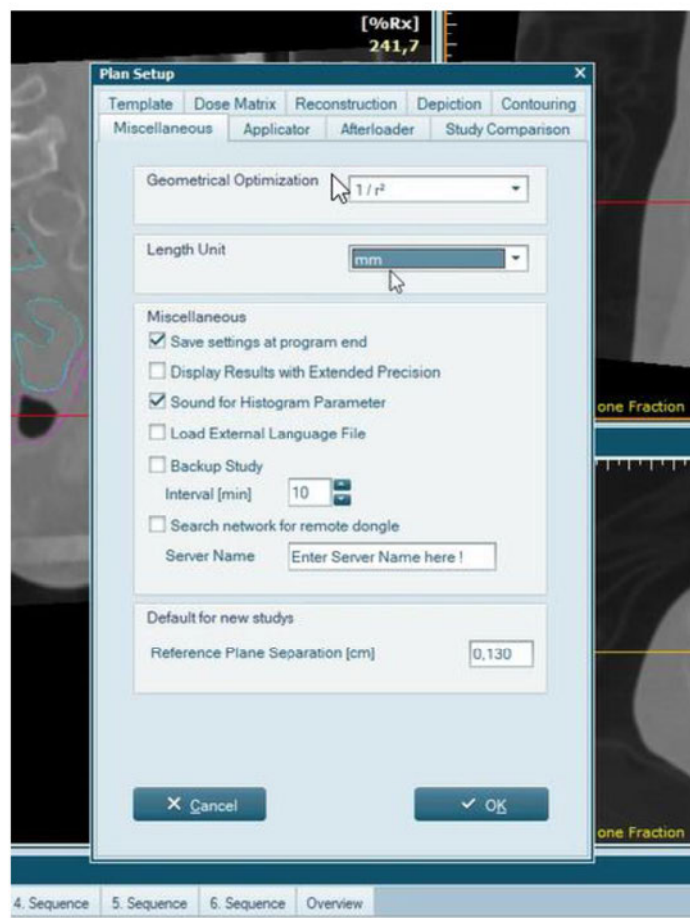

Figure 3 Plan Setup section, under Miscellaneous, the Length Unit
2. Otherwise, in the *Plan Setup* section, under *Miscellaneous*, ensure that the *Length Unit* is set to centimeters (refer to Figure 3). Once this setting is in place, there will be no issues when importing CT images (Step 3 not required).